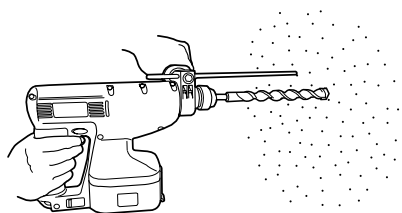

Fig. 13
- (1) Mount the drill bit.
- (2) Pull the trigger switch after applying the drill bit tip to the drilling position (Fig. 13)
- (3) Pushing the rotary hammer forcibly is not necessary at all. Pushing slightly so that drill dust comes out gradually is just sufficient.
- When the drill bit touches an iron reinforcing rod, the bit will stop immediately and the rotary hammer will react to revolve. Therefore please grip the side handle and handle tightly as shown in Fig. 13.